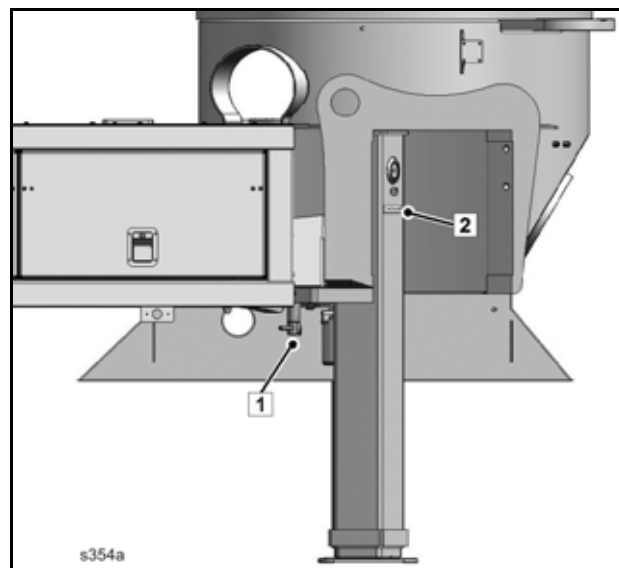
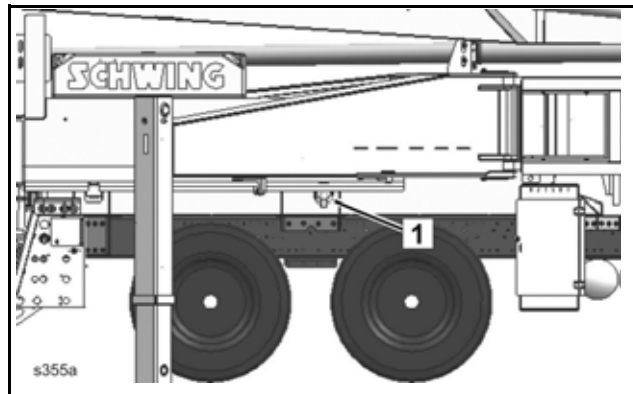

Fig. 135 Front transport safety device outrigger
Fig. 136 Rear transport safety device outrigger
- Remove the transport safety devices (1) from the front (**Fig. 135**) and rear (**Fig. 136**) outriggers